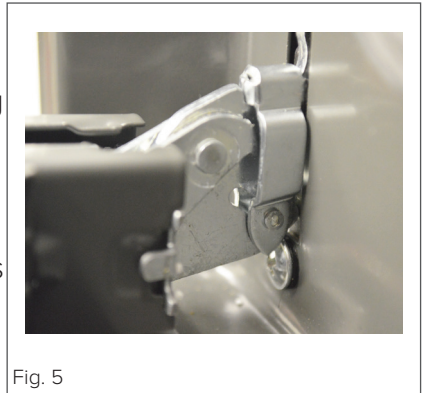

Fig. 5
- Next, ensure the notch on the underside of the hinge sits on the lip of the hinge slot. Open the door fully. Each hinge should be seated in the same way as the hinge in fig. 5. If it is not, follow the steps for removing the door and try replacing it again